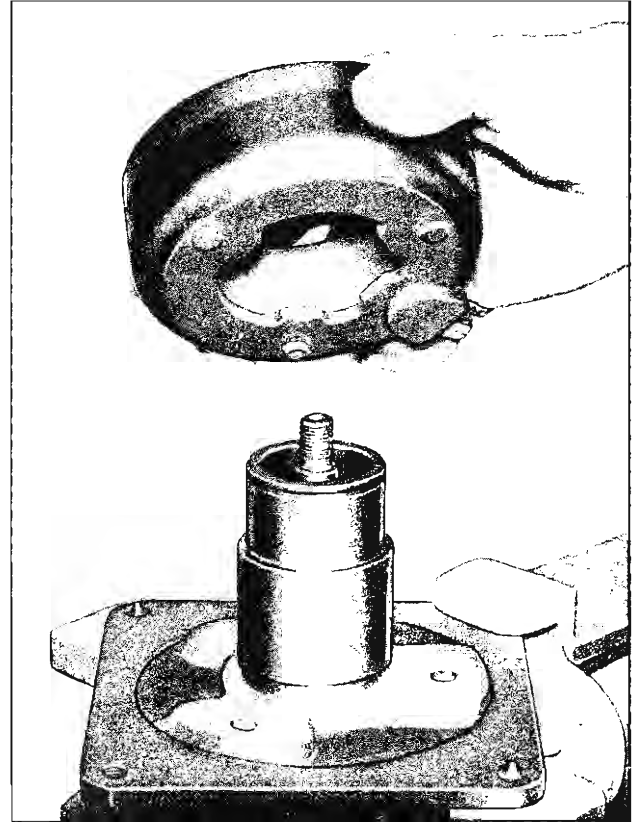

Fig. 22—Installing Coil Housing
1. Rotate the coil housing to the correct position as indicated by the scribe marks and the location of the electrical terminals and fit into place (fig. 22).